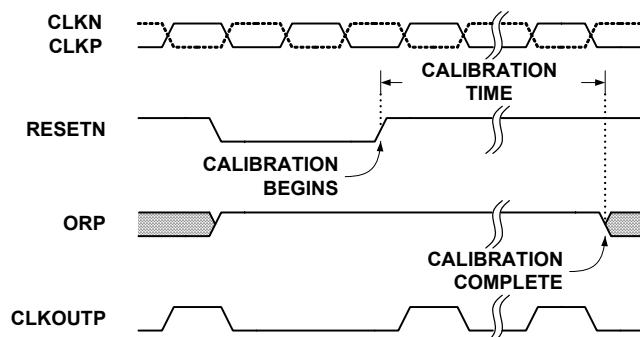

FIGURE 27. CALIBRATION TIMING
The calibration sequence is initiated on the rising edge of RESETN, as shown in Figure 27. The over-range output (OR) is set high once RESETN is pulled low, and remains in that state until calibration is complete. The OR output returns to normal operation at that time, so it is important that the analog input be within the converter's full-scale range to observe the transition. If the input is in an over-range condition the OR pin will stay high, and it will not be possible to detect the end of the calibration cycle.